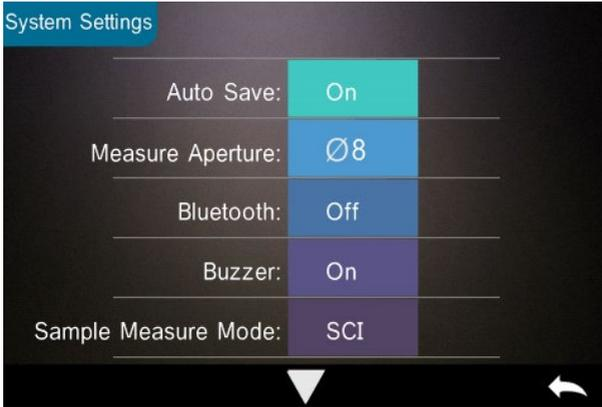
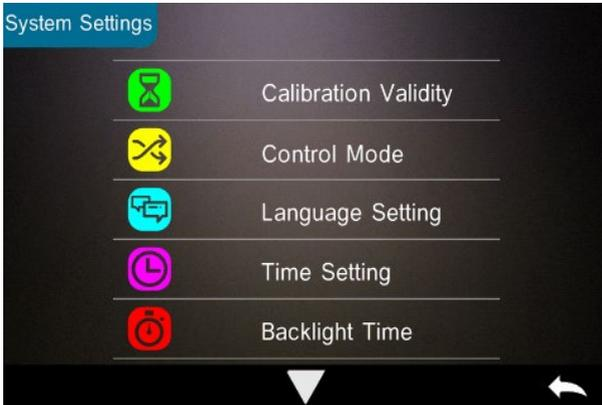
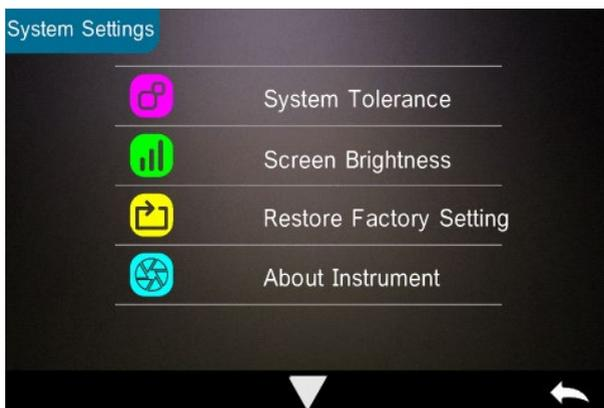

Figure 44 System Settings
Figure 45 System Settings
Figure 46 System Settings
In the main menu, click “System Settings” to view the menus per Figure 44, Figure 45 and Figure 46.
Step 3: Switch the default system measurement aperture in the System Settings (see Figure 44) to correspond with the actual measurement aperture. When the measurement aperture is switched, it is essential to re-calibrate the instrument according to part 2.2.